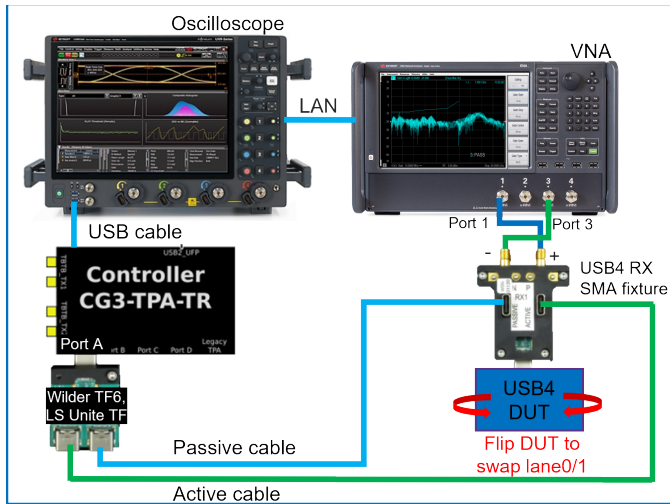

Figure 82 Tx Return loss test setup with Rx SMA test fixture
- 1 For the physical connections between the DUT & the Oscilloscope, see the connection diagrams in Figure 82 and Figure 83.